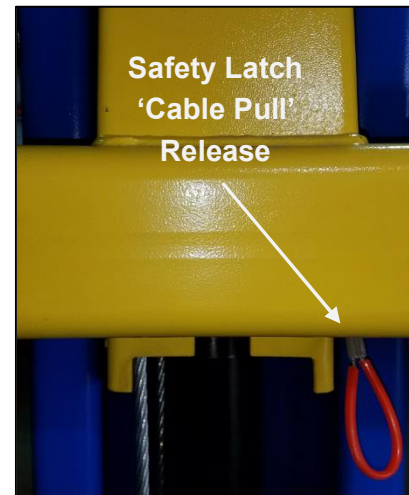

Fig. 18
2. To lower the lift, both carriage's safety latch releases must be manually pulled down to be released to lower lift (**Fig.18**). The latches will automatically reset once the lift ascends approximately 17+from base.